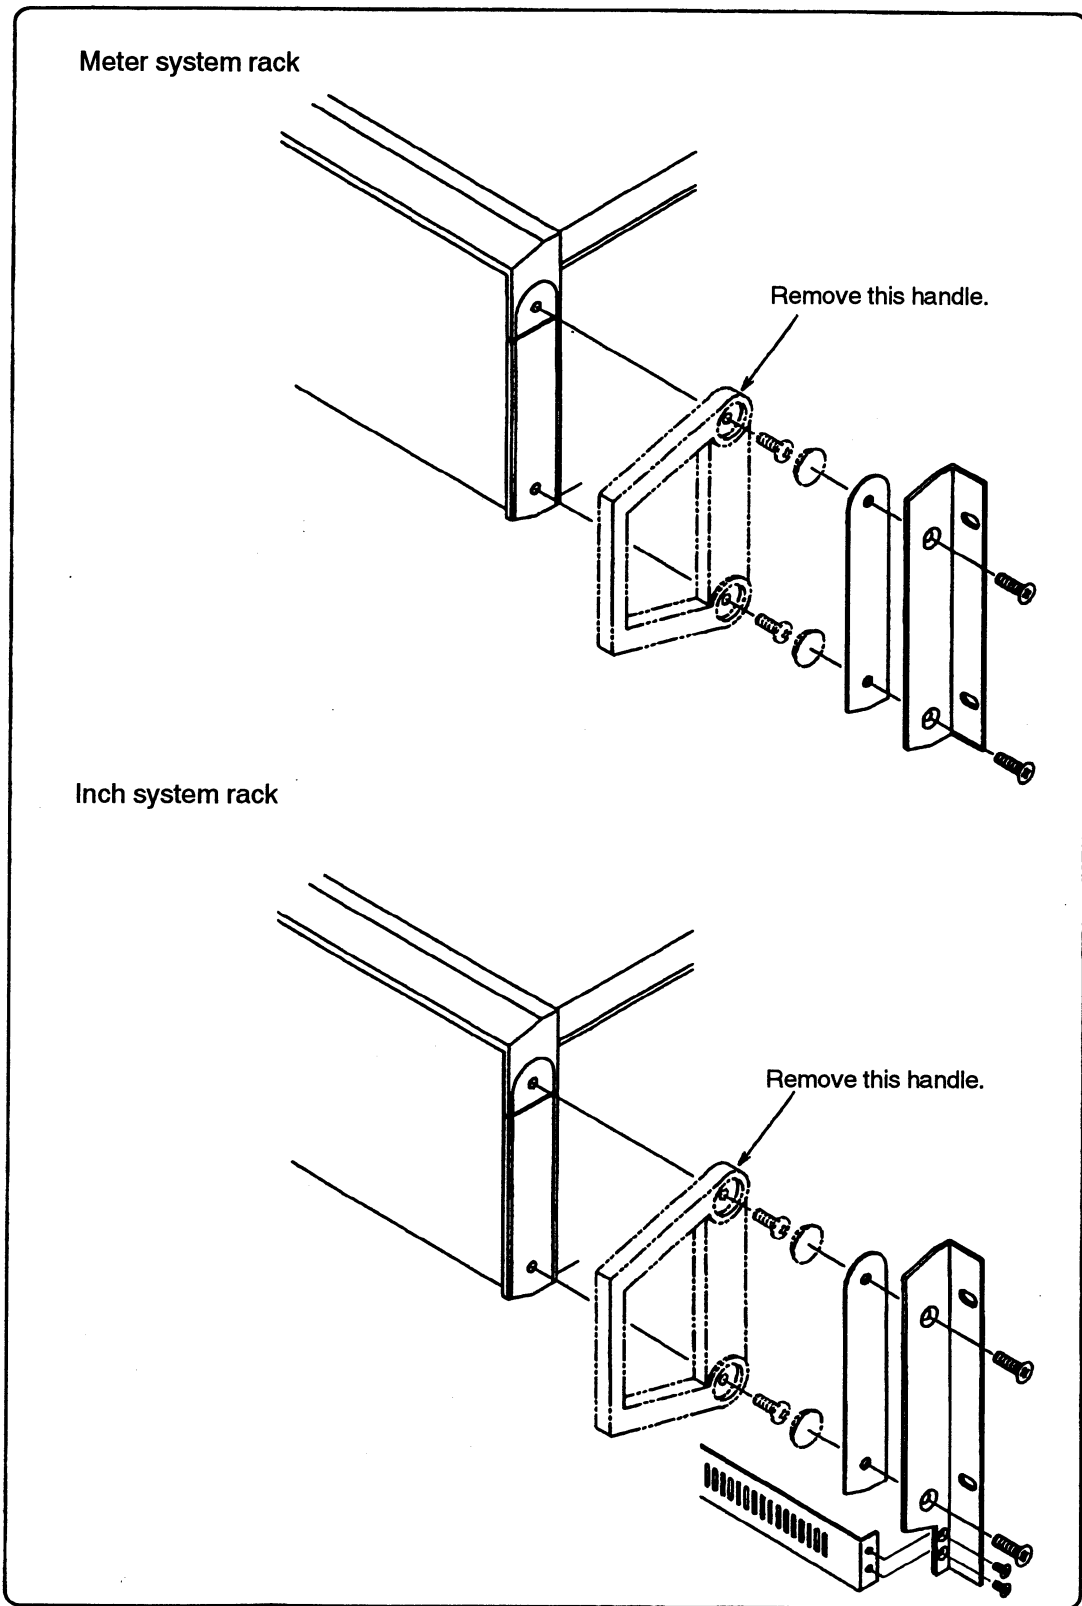

Figure 2-2 Fixing the Rack Mount Attachments
2. Using flat countersunk head screws supplied with the rack mount adapter, fix the rack mount attachments as shown in Figure 2-2 "Fixing the Rack Mount Attachments".